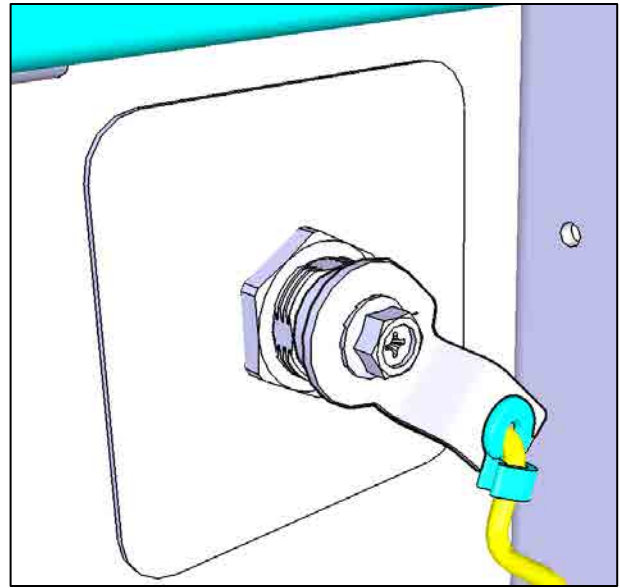

FIGURE 14
19. Install the lever on the cylinder. (Fig. 14)